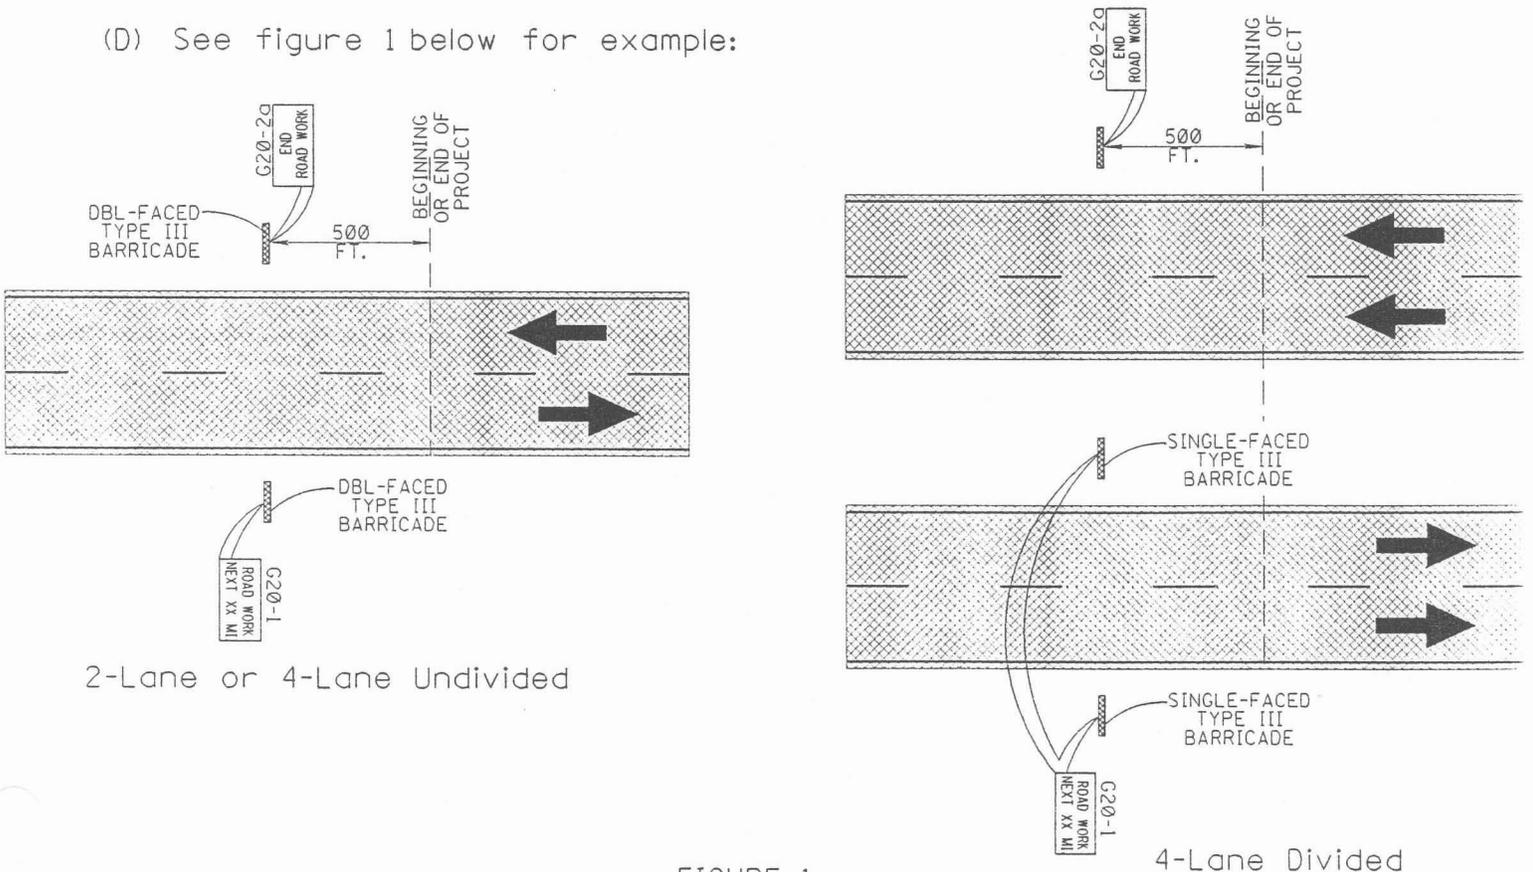

FIGURE 1.
- (A) All roadway plans will usually contain a line diagram indicating the designation and location of construction signs which are to remain fixed in place for the duration of the construction period of the contract.
- (B) The Length of Work (G20-1) sign should be erected 500 feet in advance of project or construction limits that are more than 2 miles in length; it carries the legend ROAD WORK NEXT XX MILES. The distance shall be stated to the nearest whole mile. The sign may be mounted on a Type III barricaded (6 feet wide). The sign may also be used for jobs of shorter length.
- (C) The END ROAD WORK (G20-2A) sign should be placed about 500 feet past the work area or project limits. The sign may be erected on a Type III barricade (6 feet wide).
- (D) See figure 1 below for example:
- (A) During any time the normal function of a roadway is suspended, temporary traffic control planning must provide continuity of function (movement of traffic, pedestrians, transit operation, and access to property\utilities). The location where the normal function of the roadway is suspended is defined as the work space. The work space is that portion of the roadway closed to traffic and set aside for workers, equipment, and material. Sometimes there may be several work spaces within the project limits. This can be confusing to drivers because the work spaces may be separated by several miles. Each work space should be adequately signed to inform drivers of what to expect.
- (B) Where any part of the roadway is obstructed or closed; for example (a work space within the project limits), advance warning signs are required to alert traffic well in advance of these obstructions or restrictions.
- (C) All traffic control devices should be removed when no longer needed. When work is suspended for short periods, advance warning signs that are no longer appropriate shall be removed.
- (D) See figures 1 & 2 for examples: